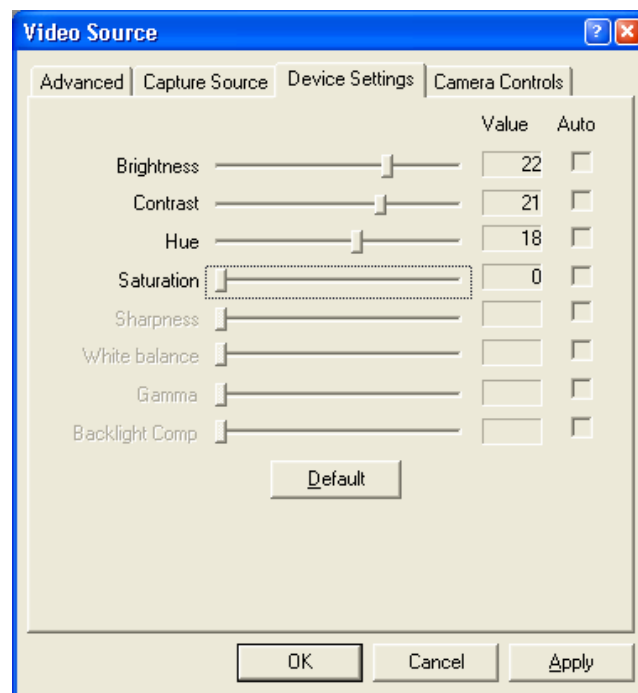

FIGURE E-3 Video Source – Device Settings Tab
- a) Select the **Settings** button in the video camera window (FIGURE E-2), and then choose the **Device Settings** tab (FIGURE E-3).